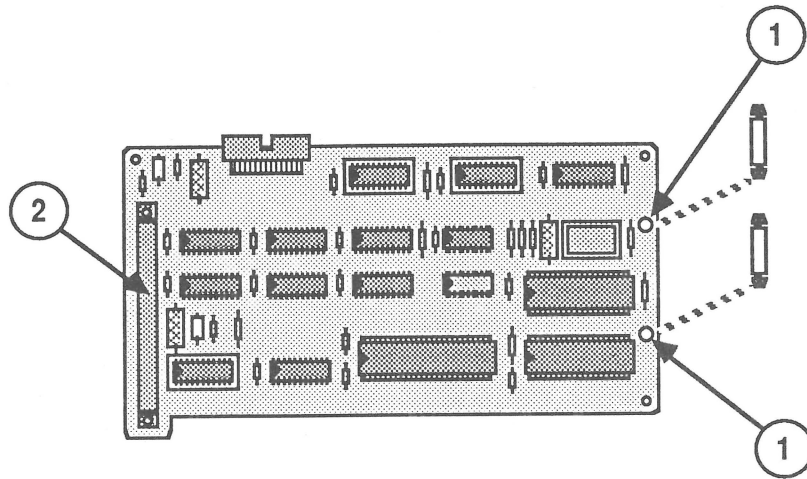
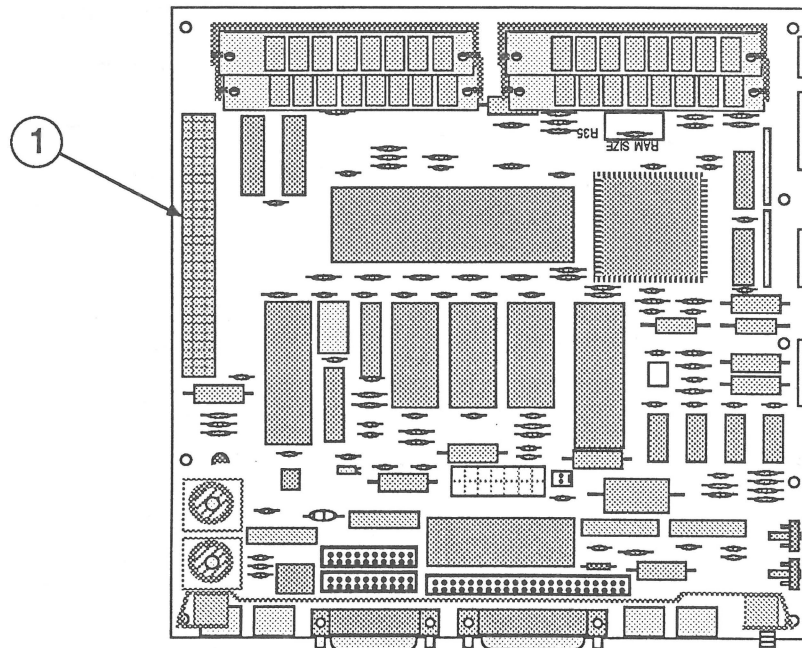
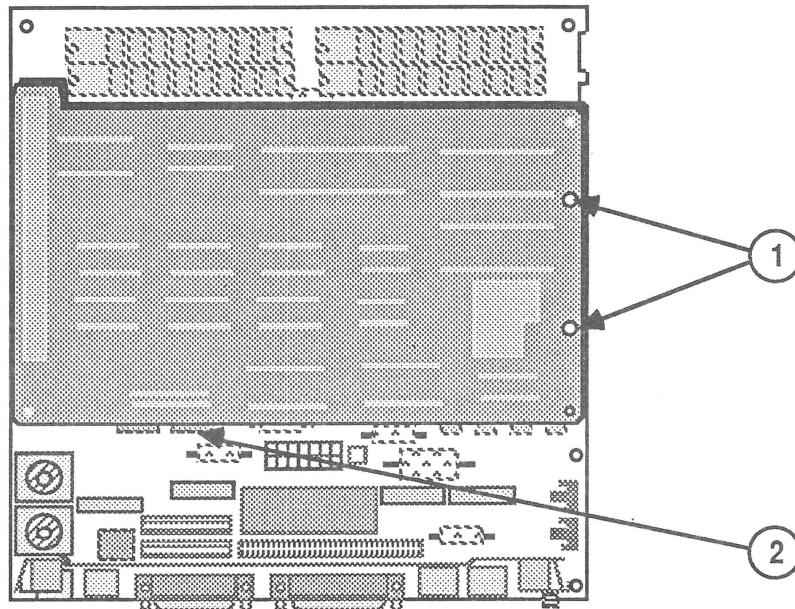

FIGURE 4
FIGURE 5
FIGURE 6
5. From the component side of the card, push the two plastic standoffs into the mounting holes (Figure 4, #1) until they snap into place.
6. Locate the 96-pin Euro-DIN connector on the card (Figure 4, #2) and the internal expansion connector on the main logic board (Figure 5, #1). Turn the card component-side-down above the main logic board, and join the two connectors (Figure 6).
7. Align the plastic standoffs on the card with the mounting holes on the main logic board (Figure 6, #1). Push the standoffs into the holes until they snap in place.
8. Position the Macintosh SE with the face down and the bottom toward you. Plug the SE-Bus PC Card cable into the 26-pin connector on the card (Figure 6, #2).